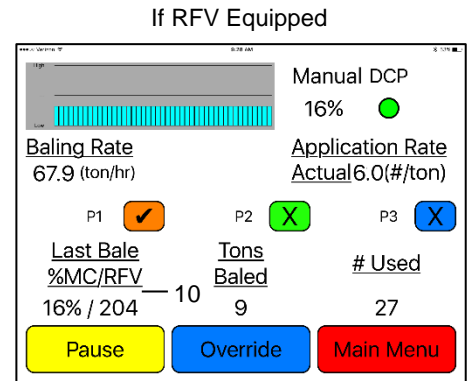

Figure 3
10. If your applicator is RFV equipped (figure 3), the RFV value of the last bale will be displayed next to the last bale moisture reading.